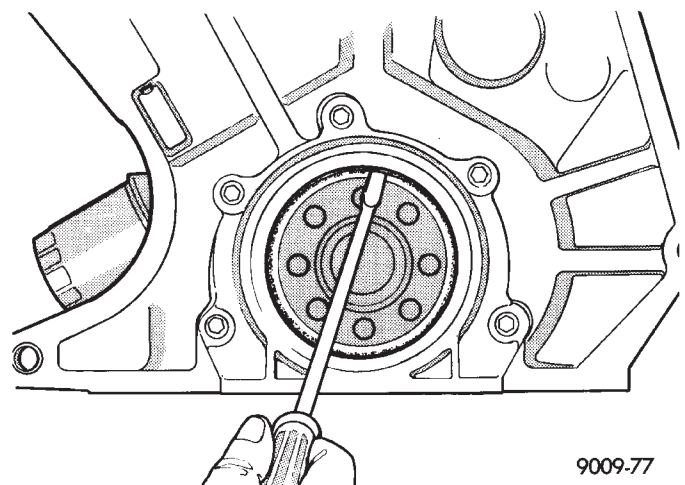

Fig. 81 Rear Crankshaft Oil Seal—Removal
- (1) Insert a 3/16 flat bladed screwdriver between the dust lip and the metal case of the crankshaft seal. Angle the screwdriver (Fig. 81) through the dust lip against metal case of the seal. Pry out seal.